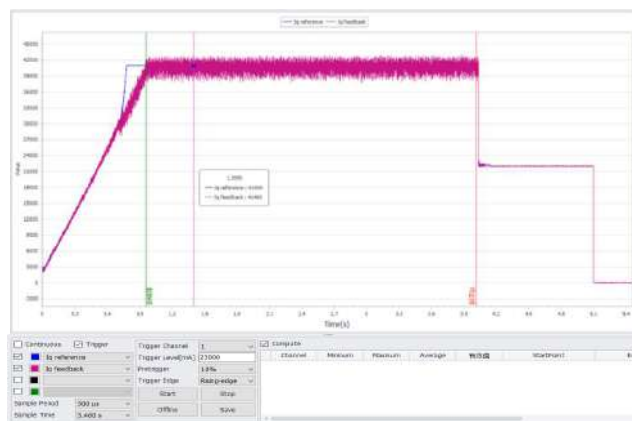

Figure 5-5 Trigger acquisition
■ Trigger acquisition refers to the operation of starting to execute a single acquisition after the acquisition conditions are met. The set trigger conditions include "**trigger channel**", "**trigger edge**" and "**trigger level**".After "start ", the oscilloscope will judge whether the trigger conditions are met, and when the sampling value of the trigger channel meets the trigger edge and trigger level, the acquisition will start, and the trigger conditions will be lagged accordingly according to the "**pre-trigger**" setting, As shown in Figure 5-5;